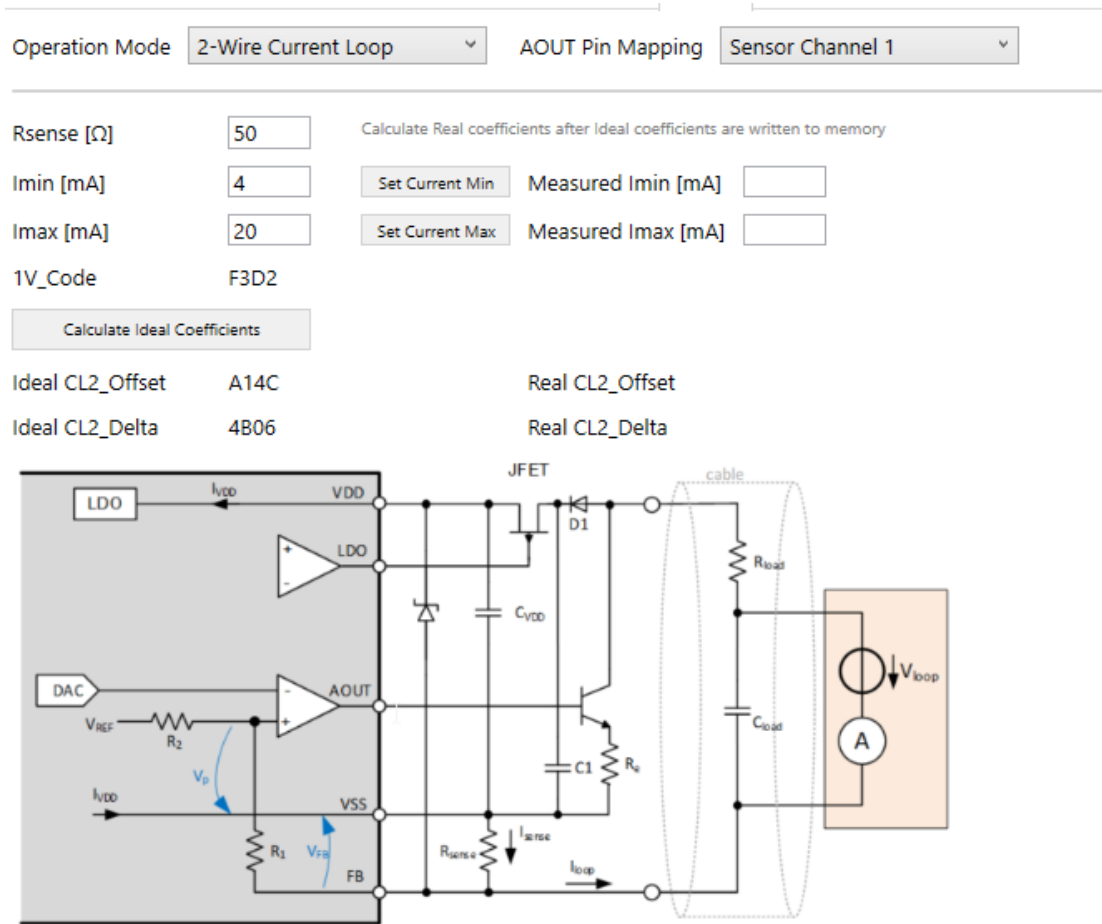

Figure 134. 2-Wire Current Loop Calibration
2. Click the ‘Calculate Ideal Coefficients’ button (see Figure 134).